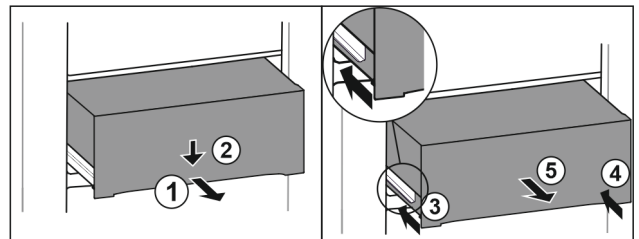

Fig. 103
- Pull out drawer half-way. Fig. 103 (1)
- Push the drawer down at the front. Fig. 103 (2)
- Push the left rail in by about 2 cm. Fig. 103 (3)
- Push the right rail in by about 2 cm. Fig. 103 (4)
- Remove drawer to the front. Fig. 103 (5)